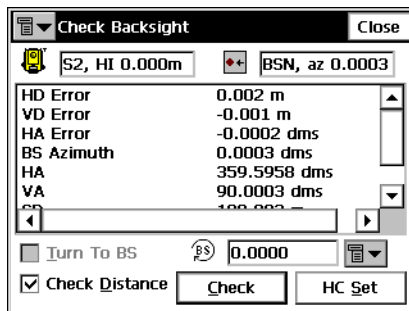

Figure 6-23. Check Backsight
4. To check the quality of the chosen backsight point, tap the **Check BS** button. The **Check Backsight** screen displays the residuals of the current backsight point after tapping the **Check** button (Figure 6-23). Tap **Close**.